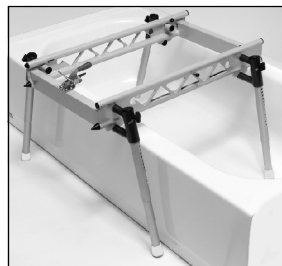

Figure 13
1. With the legs in the open and locked positions, place the transfer base into the shower or tub (Fig 13). Then, roll the seating to the end of the tub base (Fig 14).